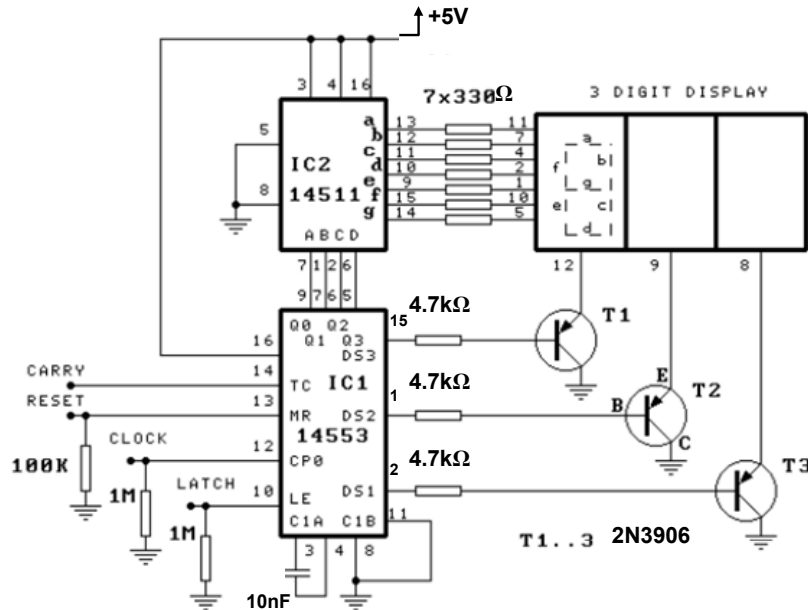
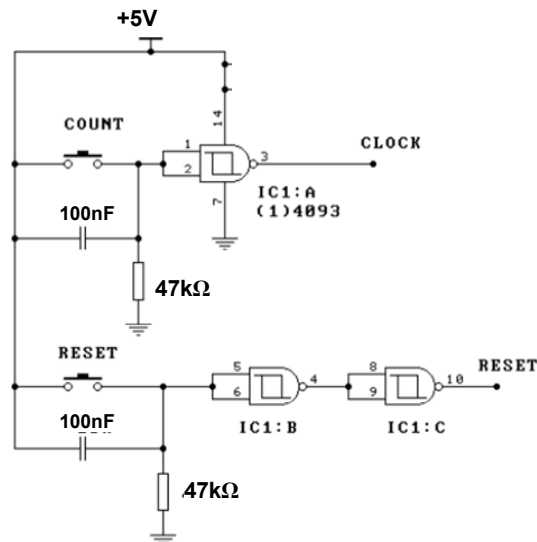

Figure 7-4 – Using the 4553.
Figure 7-5 – Debounced switches.
MC14553) 3-digit BCD counter. This chip was designed specifically to work with multiplexed displays, so it only requires a single external decoder circuit. Figure 7-4 shows the basic configuration for creating a 3-digit counter using the 4553, the 4511 decoder, and a multiplexed common-cathode display.
- Build the circuit of Figure 7-4 using the 4553. Note that the 4511 decoder/display circuit is identical to the one you built in the last step, so the only new part here is the use of the 2N3906 PNP transistors to drive the cathode connections of each digit.
- To test the 3-digit counter we need debounced clock and reset signals. Figure 7-5 describes suitable circuits that are similar to the ones used on our previous lab, using the 4093 quad-NAND Schmitt devices. Build this circuit on your protoboard, and connect the clock and reset connections to the appropriate places on the 4553 counter circuit of Figure 7-4.